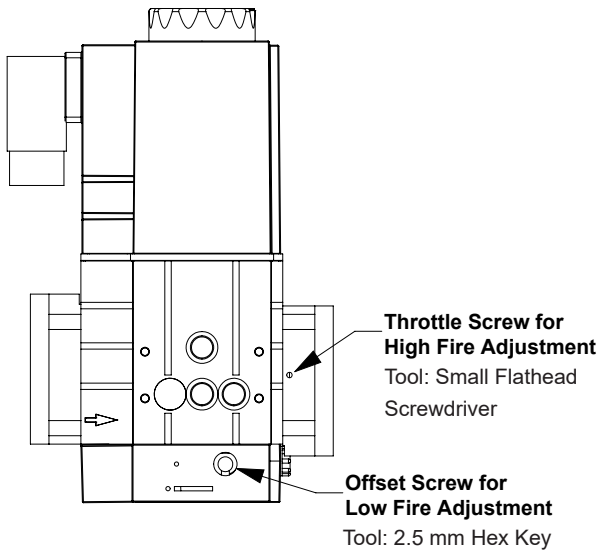

Figure 29: Gas Valve Air/Fuel Adjustment
- d. If high fire O₂ is too high (CO₂ is too low), decrease O₂ (increase CO₂) by turning the throttle screw towards the "Plus (+)" sign in 1/4 turn increments and checking the O₂ (or CO₂) after each adjustment. Refer to Figure 29 for location of throttle screw. Verify CO air free is less than 200 ppm.